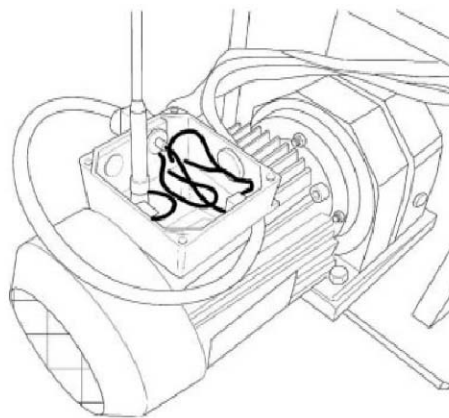

Fig. 5-3 Removing motor wires
6. Loosen terminals and remove wiring from the motor as shown in Figure 5-3.